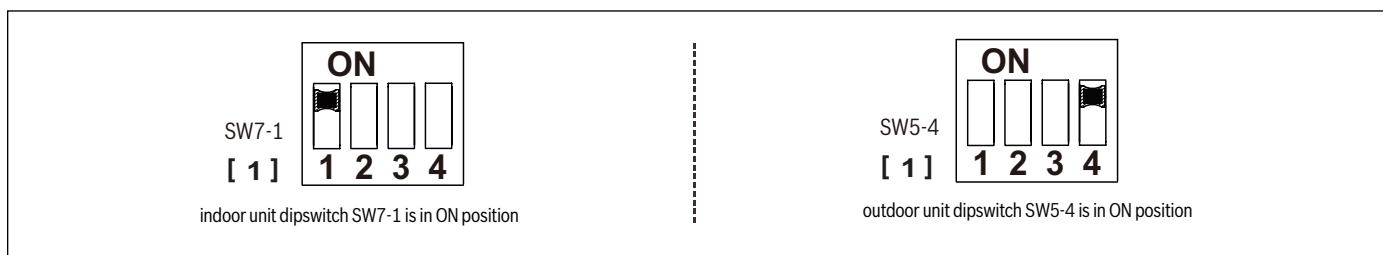

Figure 39
- This is not the factory default configuration, and both dipswitches must be set to the position shown in Figure 39 to enable communication.
Ensure the dip switches are configured correctly for communicating mode (see Fig. 39).